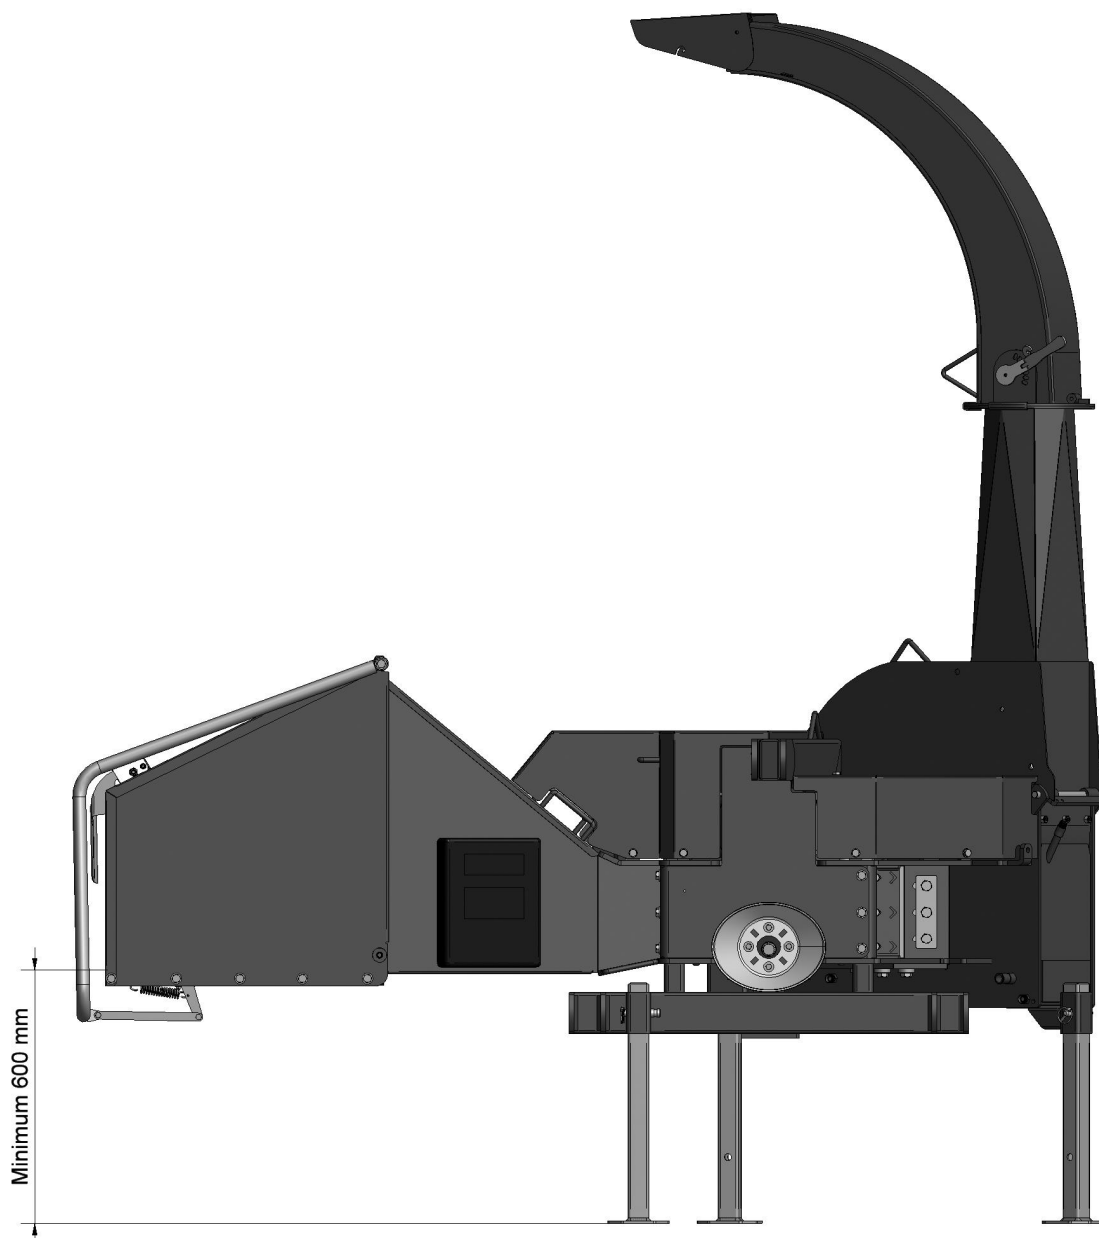

Figure 7 Minimum height above the ground
- During operation set the machine's height to at least 600 mm above the ground (Figure 7).
The wood chipper is equipped with two hydraulic rollers, pressure-compensated flow valve, control valve and operating guard on the feed funnel (See Figure 6). The feed funnel can be tilted. The operating guard must be in the stop position (0) during start-up (See Figure 7). After start-up, pull the operating guard to the central position (A) and the rollers will turn. The material will now be drawn into the machine.